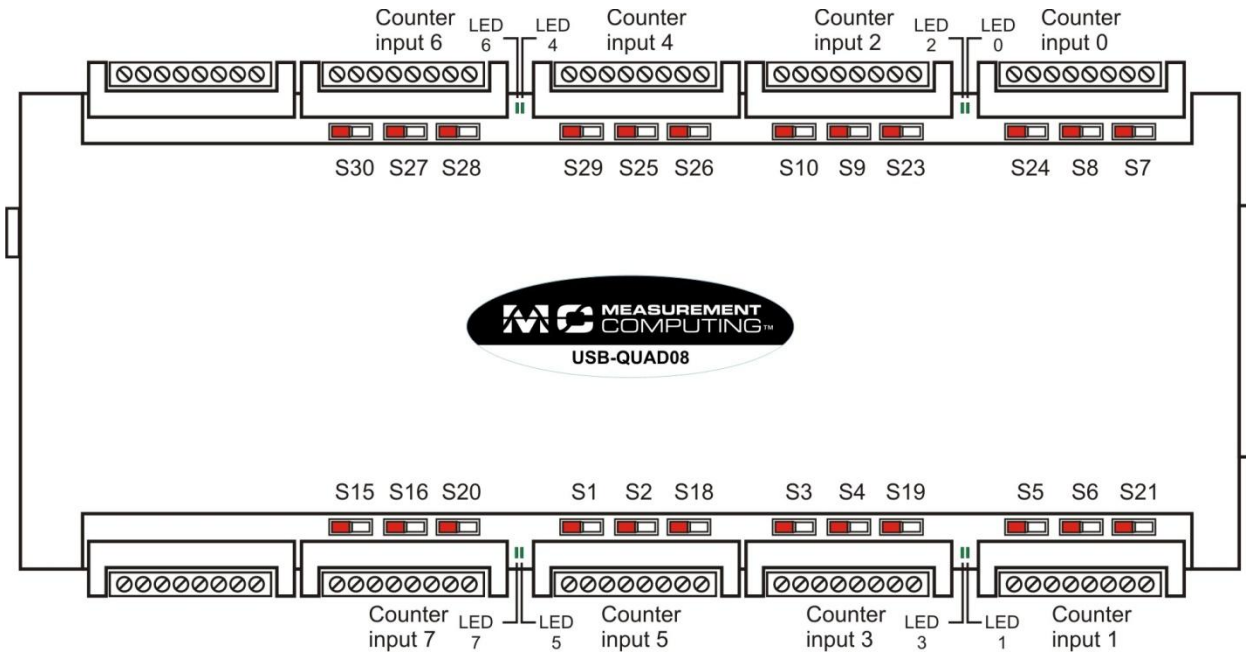

Figure 2. Input mode switch and LED locations
Figure 2 shows the locations for the counter input mode switches and the counter LEDs. Using the board orientation shown in Figure 2, slide the switch to the left (toward the USB connector) for single-ended mode, or to the right (towards the 37-pin connector) for differential mode. Note that the "dot" is visible on the switch when configured for differential mode, regardless of the board orientation.
By default, the board is shipped with the counter inputs configured for single-ended operation (as shown in Figure 2).
- Counter/encoder channel LEDs (not shown below, refer to Figure 2 on page 8 for each location)